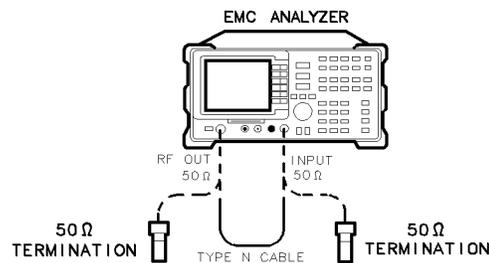

Figure 2-85.
1. Connect the Type N cable between the RF OUT 50 Ω and INPUT 50 Ω connectors on the EMC analyzer. See Figure 2-85.